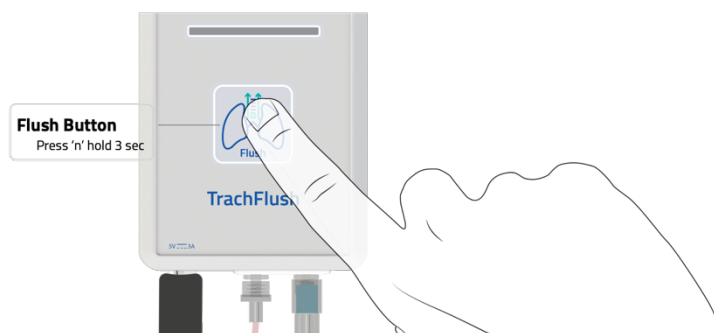

Figure 17: Performing a Flush
**Step 1:** Press and hold the Flush button for more than 3 seconds as shown on figure 17 below.